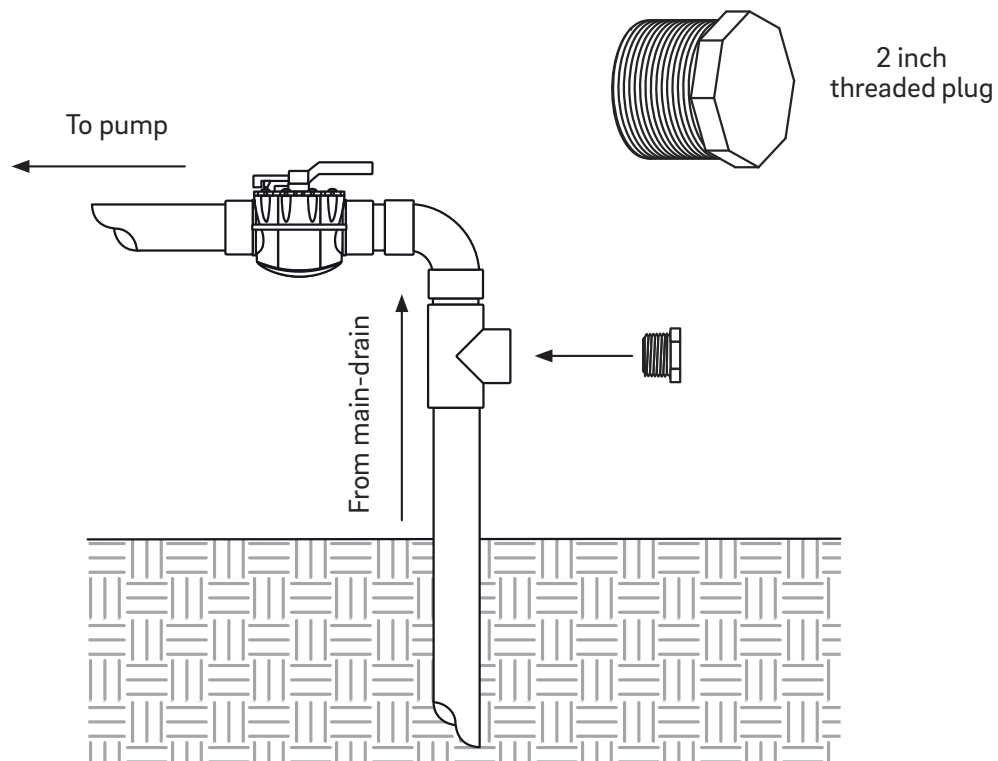
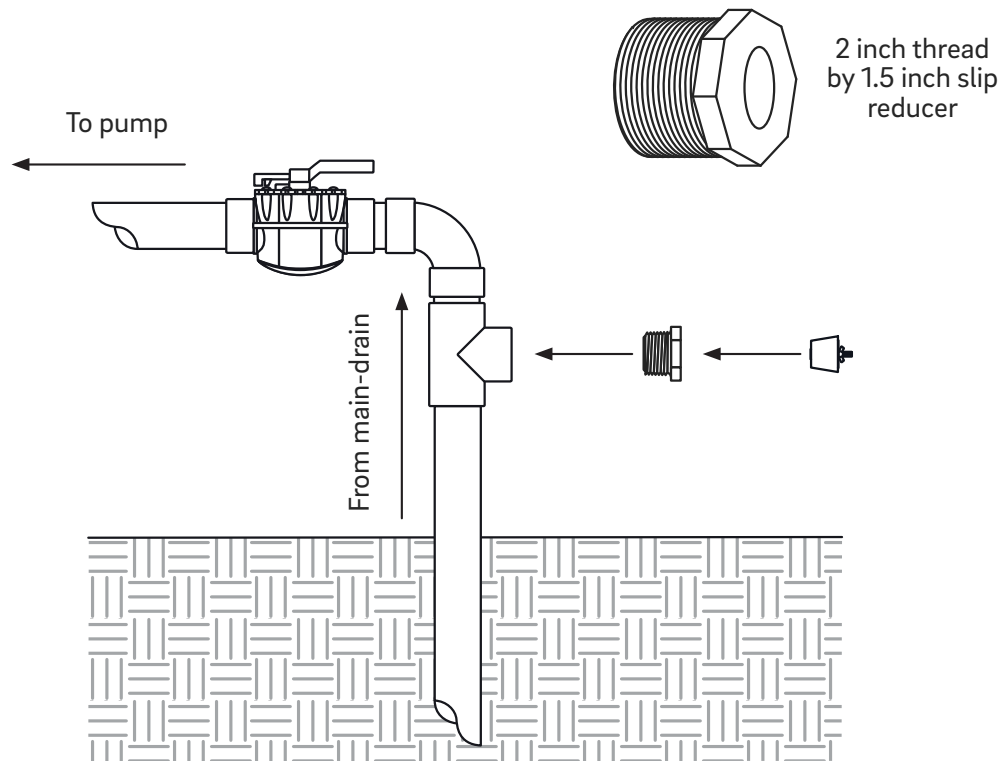

Figure 22
Figure 23
2. Between the 2-Way shut-off valve and the drain, install a Tee fitting with a 2 inch threaded branch. This will allow a 2 inch threaded plug to be removed later during the winterization process (Figure 22).
4. Remove the 2 inch threaded plug from the Tee (Figure 22) and replace it with a 2 inch thread by 1.5 inch slip reducer bushing (Figure 23).